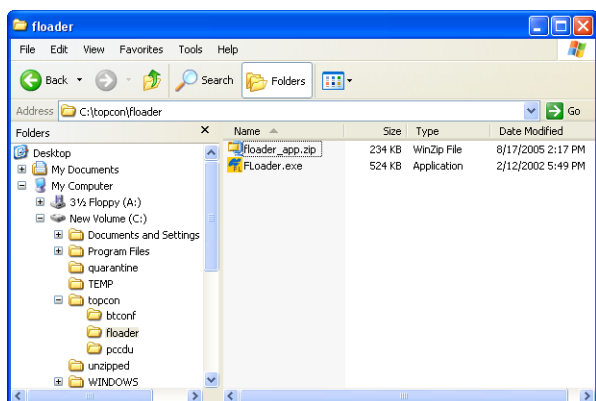

Figure 2-5. Extract Program and Create Shortcut
3. Extract the FLoader.exe file to the FLoader folder (Figure 2-5).
4. Optionally, create a shortcut on the computer's desktop for quick access to FLoader (Figure 2-5).